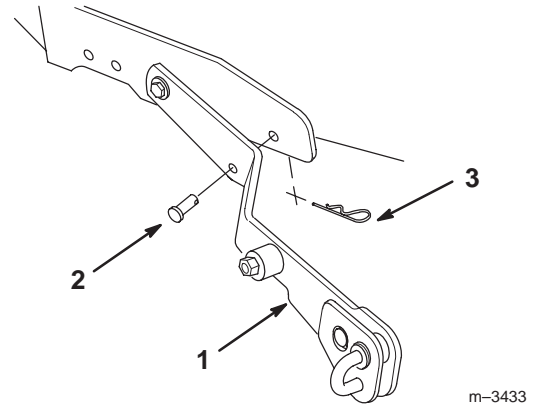

Figure 7
4. The two lift arms are attached to the tractor frame, just ahead of the rear wheels. Secure the lift arms to the tractor frame with 3/8" x 1" (25 mm) clevis pins and small hairpin cotters (Fig. 7).